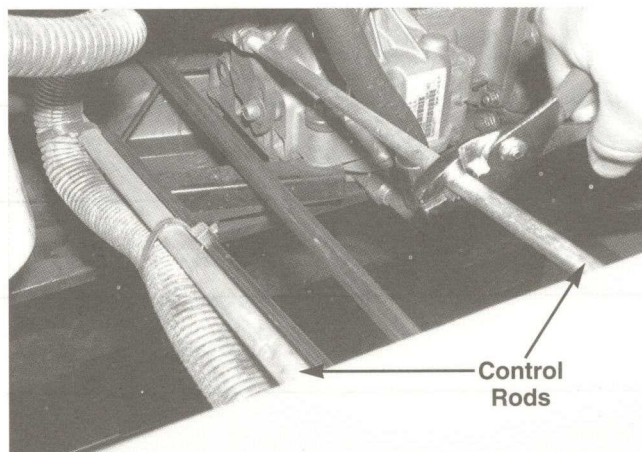

FIGURE 19.
32. Rotate the hydrostatic control rods clockwise or counter-clockwise until the rear wheel assemblies come to a complete stop. See figure 19.